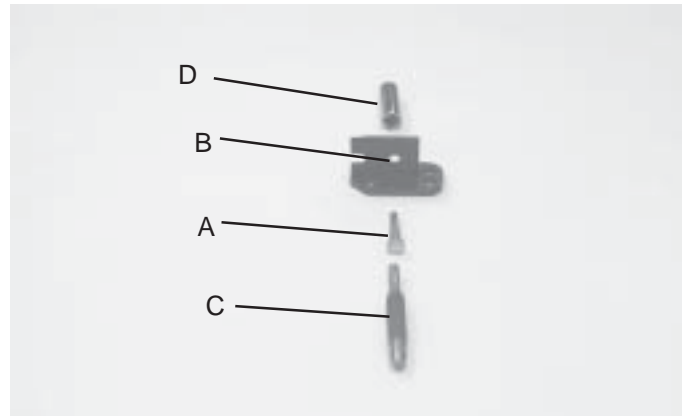
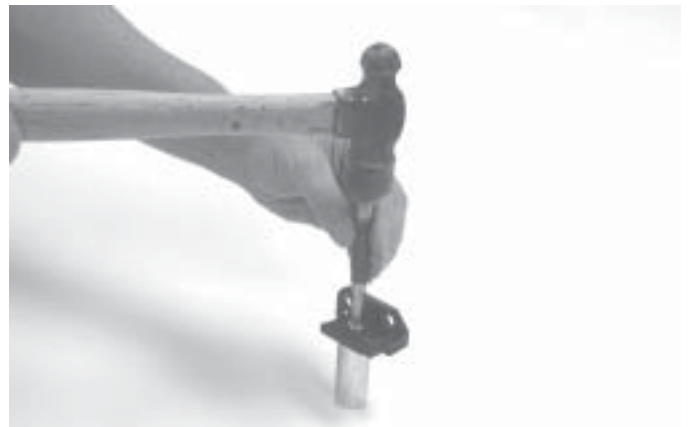

Fig. 3
Fig. 4
2. Insert and seat stud (A) Fig. 3 through hole in side of splitter mounting bracket (B). NOTE: It will be necessary to have a hammer, punch (C) and a tool with a recessed hole similar to a deep well socket (D) in order to seat stud (A) Fig. 3, and used as shown in Fig. 4.